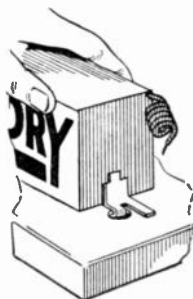

FIGURE 4
D. One half of the flange may be bent down as in Figure 4 and pushed through any convenient hole in the chassis. Bend back the flange after it is through the hole.